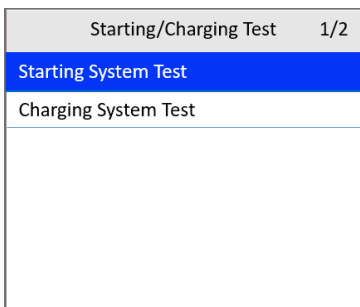

Figure 6-2 Starting/Charging Test Screen
- 4) Use the **UP/DOWN** scroll button to select **Charging System Test** from the Starting/Charging Test screen (Figure 6-2) and press the **OK** button.